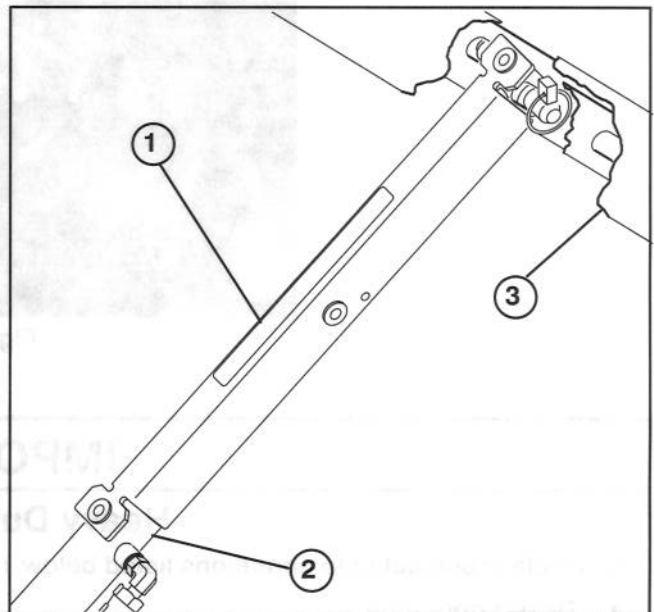

Figure 26
3. Push bed support onto cylinder rod, making sure support end tabs rest on end of cylinder barrel and on cylinder rod end (Fig. 26).